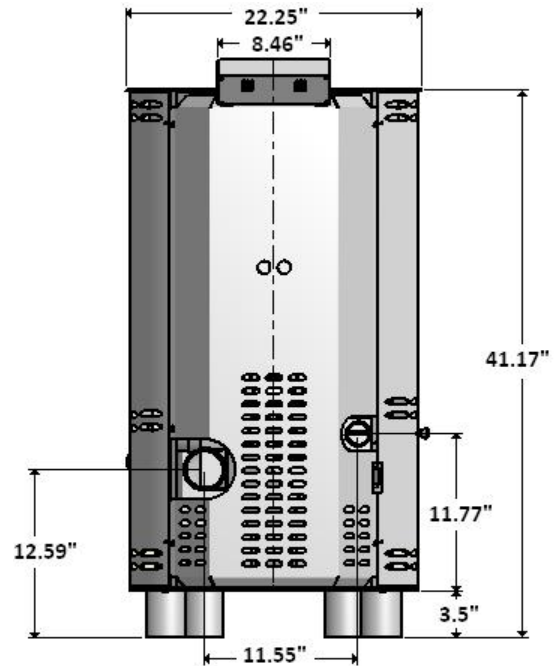
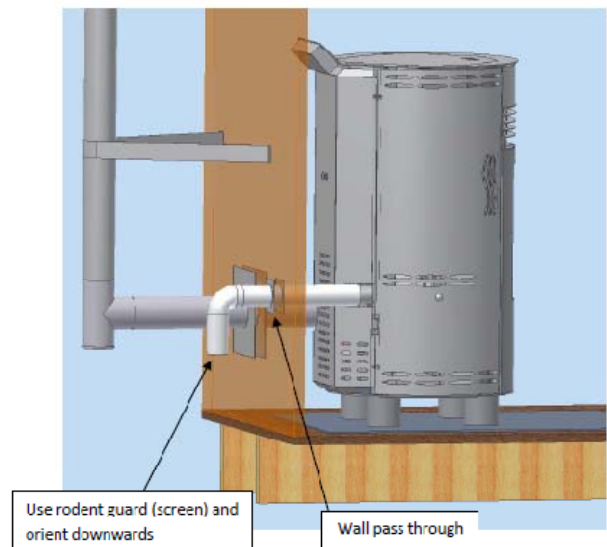

FIGURE 3
FIGURE 4
A 2" inside diameter metallic pipe, either flexible or rigid, may be attached to the inlet at the stove's rear (refer to figure 3). A rodent guard (minimum ¼" wire mesh)/wind hood must be used at the terminus (refer to figure 4). All connections must be secured and airtight by either using the appropriately sized hose clamp and/or UL-181-AP foil tape.
2. Locate position of hole in wall; directly behind stove exhaust vent (refer to figure 3).